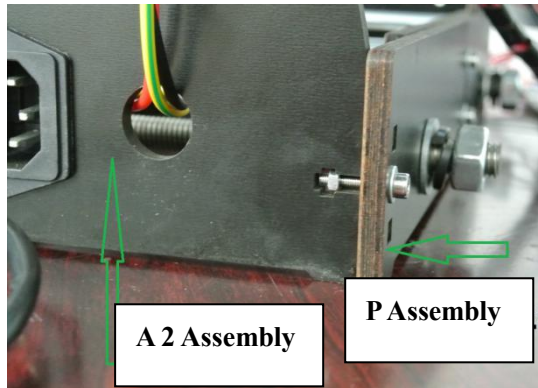
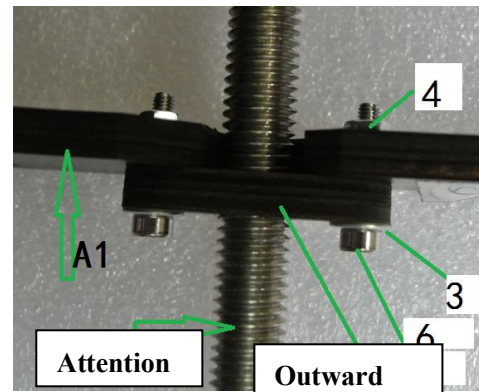

Figure 18
Figure 19
Align the holes of P assembly with the holes of previously installed main structure. Then fix the two and install P assembly to the main structure as shown in figure 18. Then follow figure 19 to install the bottom of P assembly to the A1 assembly. Next connect motor to the port 12 of motherboard with short cable ⑲.